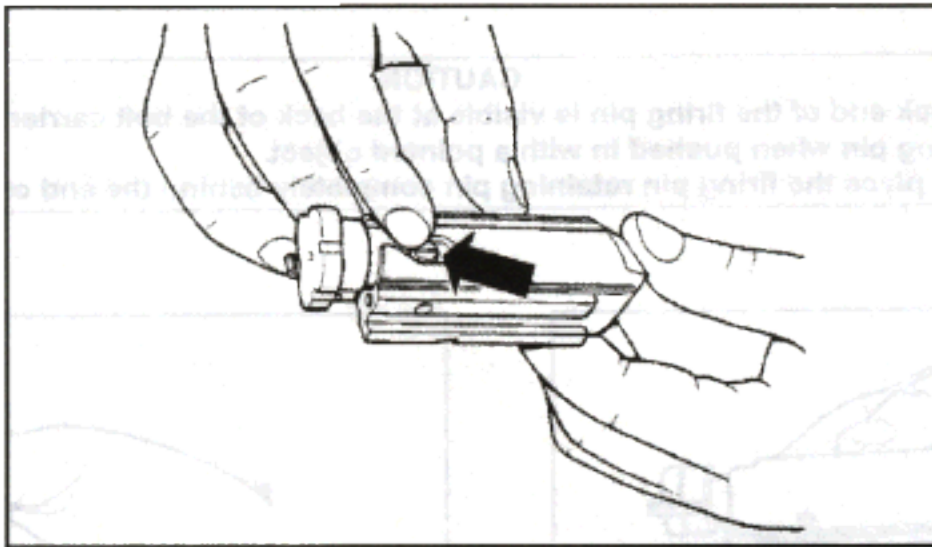

Figure 32. Installing the cam pin into the bolt group
- B. **Insert cam pin** – Insert the cam pin into the bolt assembly through the hole in the bolt head so that the hole through the cam pin and index line on the top side of the pin run parallel with the bolt carrier (**Figure 32**).